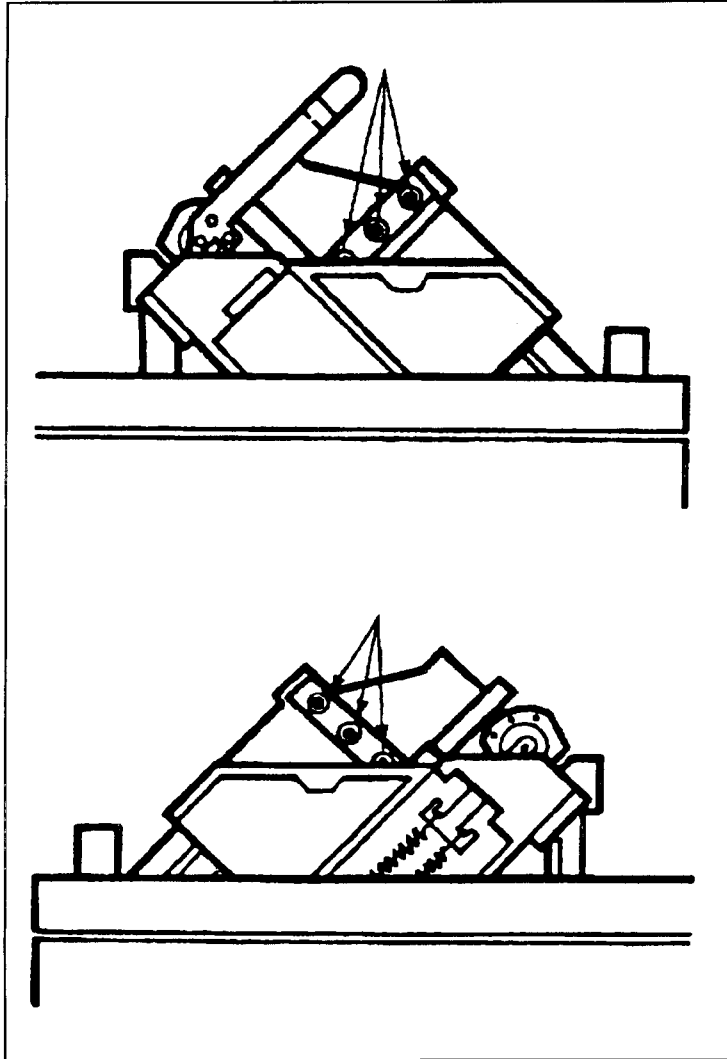

Figure 6-19. Printbar Flexure Screws
- f. Remove the three screws (3mm socket cap screws) and the clamp block plates at both ends of the printbar (see Figure 6-19).
- g. Install the printbar back onto the printer with the three screws at each end (see Figure 6-19). Use Loctite 222 on the screws.